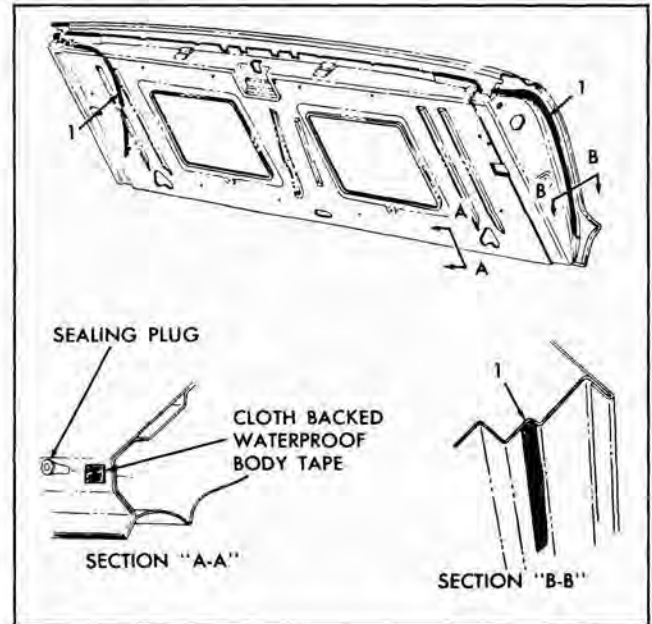

Fig. 5-25 Tail Gate Weatherstrip
NOTE: If sealing plugs are loose and will not remain engaged in panel, install a 1/2" x 1" piece of cloth backed waterproof body tape over sealing plug retaining hole, as shown in Section "A-A" (Fig. 5-25) then, slit tape over hole to form and "X" pattern. Check sealing plug for snug fit. If plug is still loose, repeat above operation by installing second piece of tape over existing repair.
4. Apply (brush coat) weatherstrip adhesive (neoprene type) on face of rabbet contacted by weatherstrip along full length of lock pillar as indicated at "1" in Section "B-B" (Fig. 5-25).